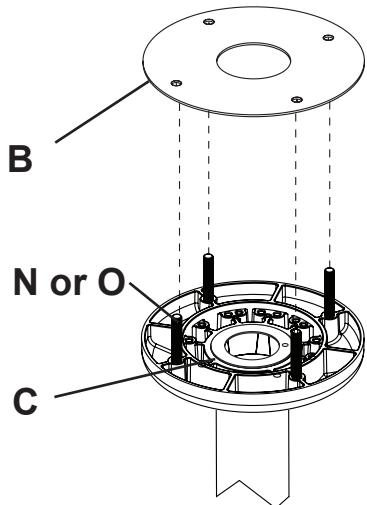

fig. 5.1
Hook vertical brackets (D and E) into adapter bracket box (A) engaging adapter pins as shown in fig. 5.1 and detail 6. Rotate keys to locked position and remove keys as shown in figure 5.2. Return the keys to the General Manager or responsible party immediately after installation is complete.